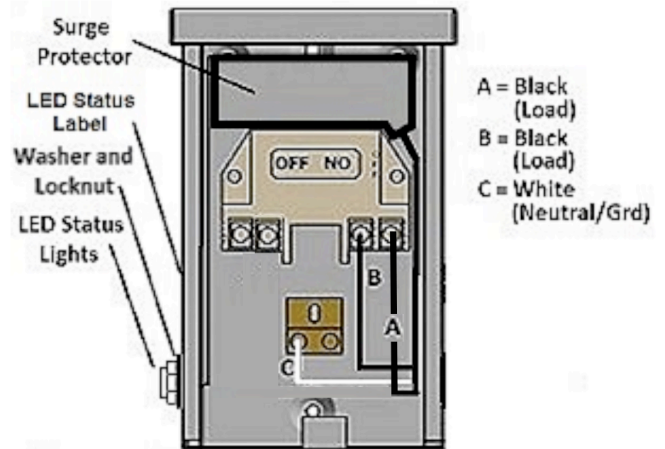

Figure 1
1. You may temporary remove the Surge Protection Device Module to gain access to the mounting holes. After mounting AC disconnect carefully return the SPD back to its original position. Referring to Figure 1, ensure wires from SPD are securely fastened to the appropriate terminal lugs as noted.
To connect the Surge Protective Device module in the AC Disconnect Closure, refer to Figure 1 and follow the installation instructions below.